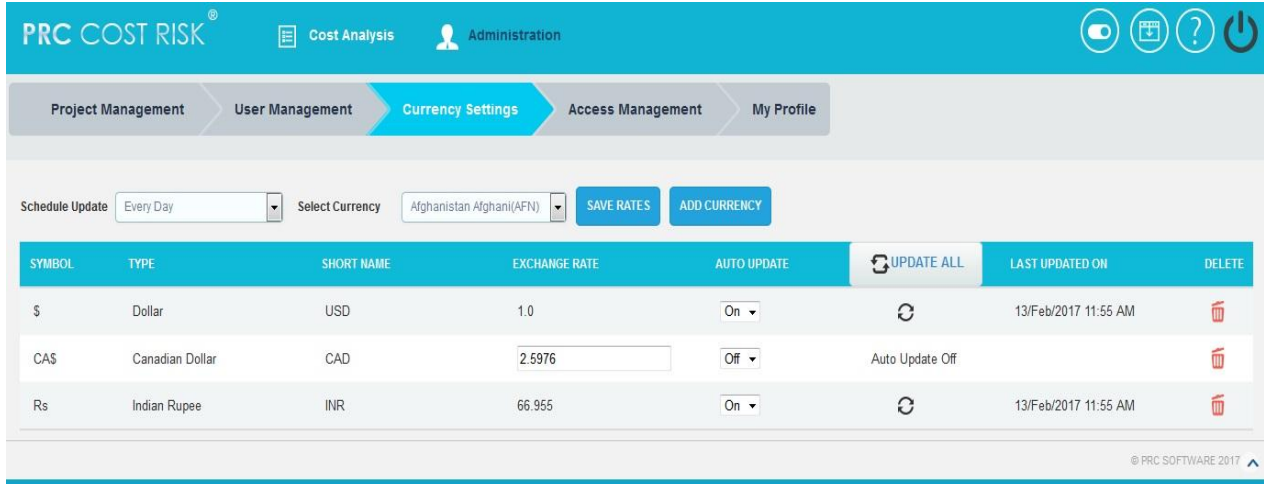

Figure 1.27
The **SAVE RATES** button is to save the currency exchange rate changes done by the user for which the Auto Update is off. (Figure 1.27)
2. Edit the currency exchange rate. (Figure 1.27)
3. Click the **SAVE RATES** button. (Figure 1.27)